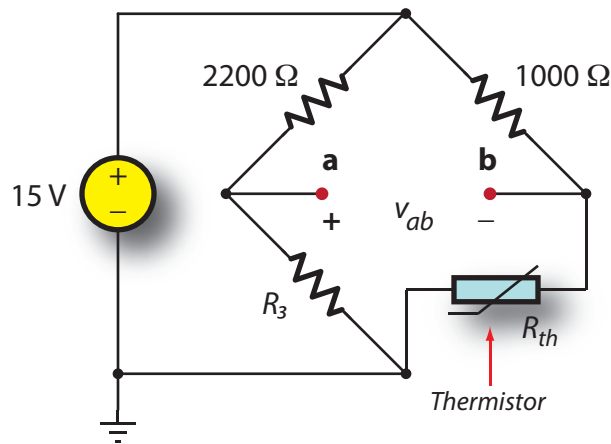

Fig. 6. Analyze this Wheatstone bridge circuit
Consider the Wheatstone bridge circuit in Fig. 6. Note the resistance in the lower-right branch of the circuit is a thermistor. The thermistor that you will use is designed to have a resistance of $75\ \Omega$ at 25°C (a Panasonic ERTD2FGL*750S device). This is the circuit that you will use to estimate a variety of temperatures.
1. Calculate the value of R_3 that would be required to balance or “null” the bridge (i.e., to cause $v_{ab} = v_a - v_b = 0$) in Fig. 6 at 25°C . With such a value of R_3 , voltage readings of v_{ab} that are negative will indicate cooler temperatures, while positive readings will indicate warmer temperatures.
- Using your value for R_3 and the other component values given in Fig. 6, obtain an expression for v_{ab} in terms of R_{th} . Then, rearrange this equation to express R_{th} in terms of v_{ab} . You will use this to calculate R_{th} and look up the corresponding temperature using the graph in Appendix B.
Connect the Wheatstone bridge circuit shown in Fig. 6 using a suitable series-parallel resistor combination for your pre-calculated value of R_3 .